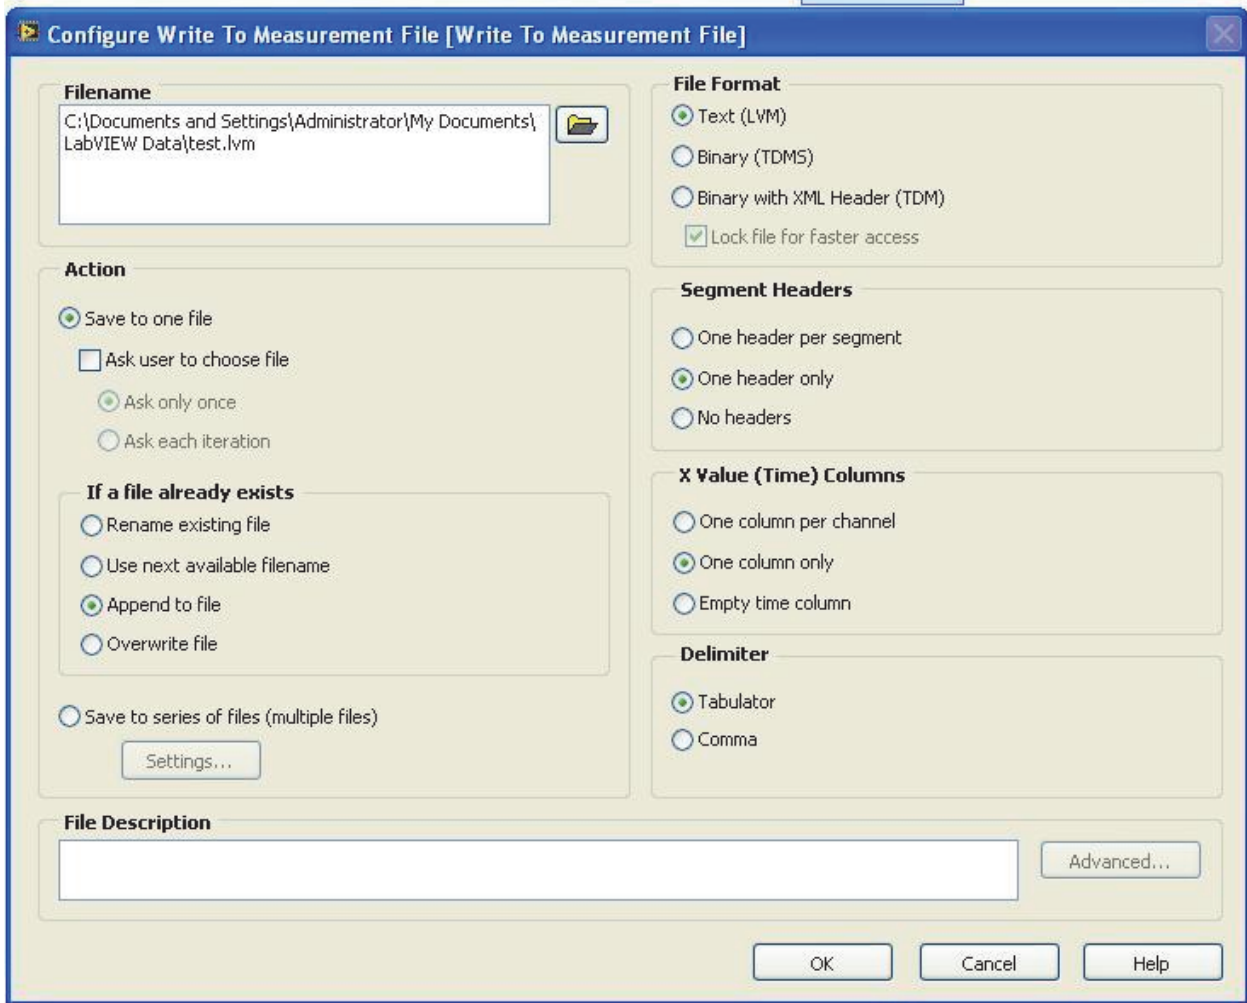

Figure 1.4.6 Write to Measurement File Express VI
This Express VI is an expandable node as are most Express VIs, such as the DAQ Assistant. The VI appears as the icon shown in the first view of Fig. 1.4.6 when placed in the block diagram. The VI may also be expanded by placing the "Position" (arrow) cursor over one of the top or bottom blue "handles" and dragging the handle until the VI appears as the second view in Fig. 1.4.6. This has the advantage of making it easier to wire the input and output terminals although at the expense of space in the block diagram.
18. Place the cursor over the “filename” input terminal (it’s the bottom terminal on the left side of the unexpanded node-see view number 1 of Fig. 1.4.6), right-click the mouse, and create a control. The control will appear in the front panel and the corresponding terminal will appear on the block diagram.